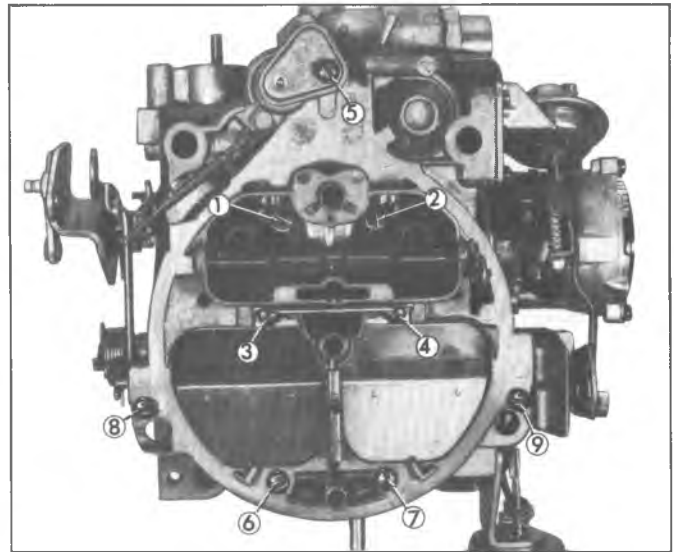

Fig. 5MQ—Removing Air Horn Screws
6. Remove nine air horn to bowl attaching screws; two attaching screws are located next to the venturi. (Two long screws, five short screws, and two countersunk screws). Remove secondary air baffle deflector, if used, from beneath the two center air horn screws (Fig. 5MQ).